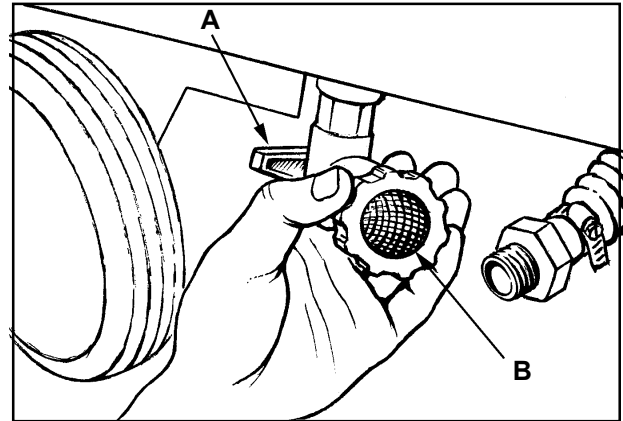

Figure 34
- d. Install the filter screen in the valve connector. Turn the connector to the right to connect the hose. See figure 34
- e. Open the solution flow valve. See figure 34.
5. Turn solution valve "OFF". See figure 34, A)
6. Locate the solution filter screen. It is located on the back of the solution valve. See figure 34, B)
8. Remove the filter screen. See figure 34.